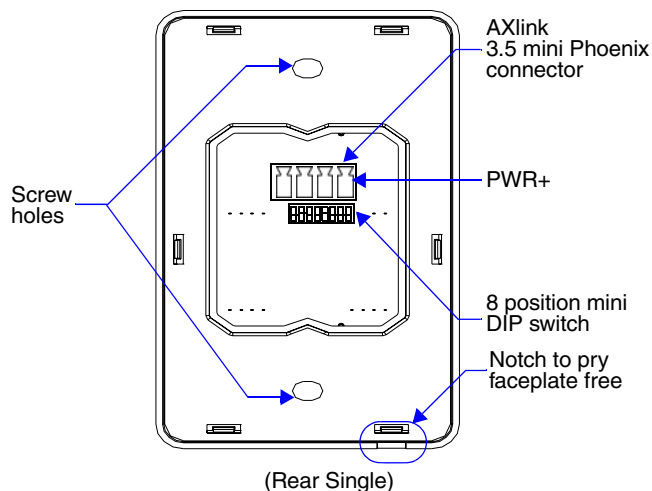

FIG. 12 Location of key components on the Mio Modero IR circuit board
Set the receive AXlink device number before installing the Mio Modero IR. FIG. 12 illustrates the location of key components on the Mio Modero IR circuit board.
2. Locate the 8-position Device DIP switch (FIG. 12).
The AXlink LED, shown in FIG. 12, lights to indicate AXlink power/data status as follows: